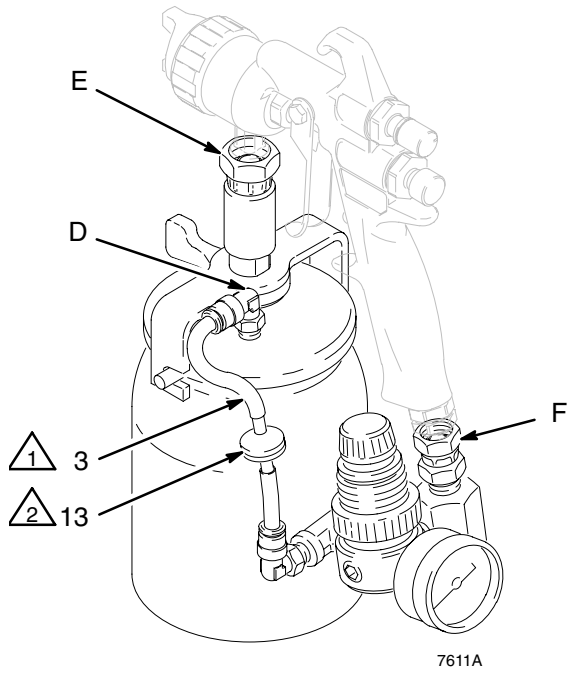

**Fig. 1**
1. Push the clamp lever (A) fully to the unclamped position, against the yoke (B). See Fig. 1.
2. Twist the cup lid (101) counterclockwise to disengage the yoke hook from the cup extended pins (C).
3. Remove the cup lid (101) and fill the cup with fluid.
4. Twist the cup lid (101) clockwise to engage the yoke (B) hook, then push the clamp lever (A) fully to the clamped position. Use your thumb to force the clamp lever into position; do not use wrenches or tools to move it.